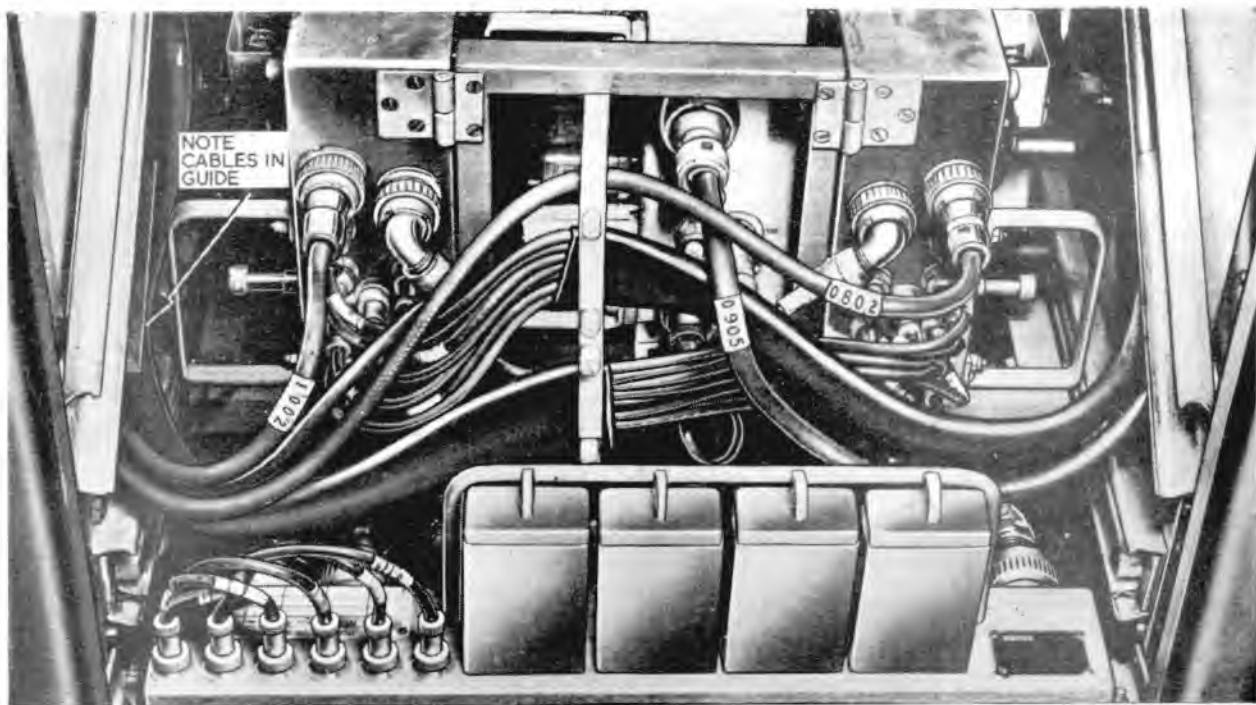

Fig. 11. Console Type 64—lower unit pushed home (close-up)
51. A close-up view, showing the lower unit pushed home, is reproduced in fig. 11. Again the cable identification numbers are emphasized. The photograph gives a clear picture of the cable guide fitted on the left-hand side of the frame. This guide counteracts the greater possibility of trapping the cable forms, as compared with the other side, consequent upon more cables being routed down this side than down the other.